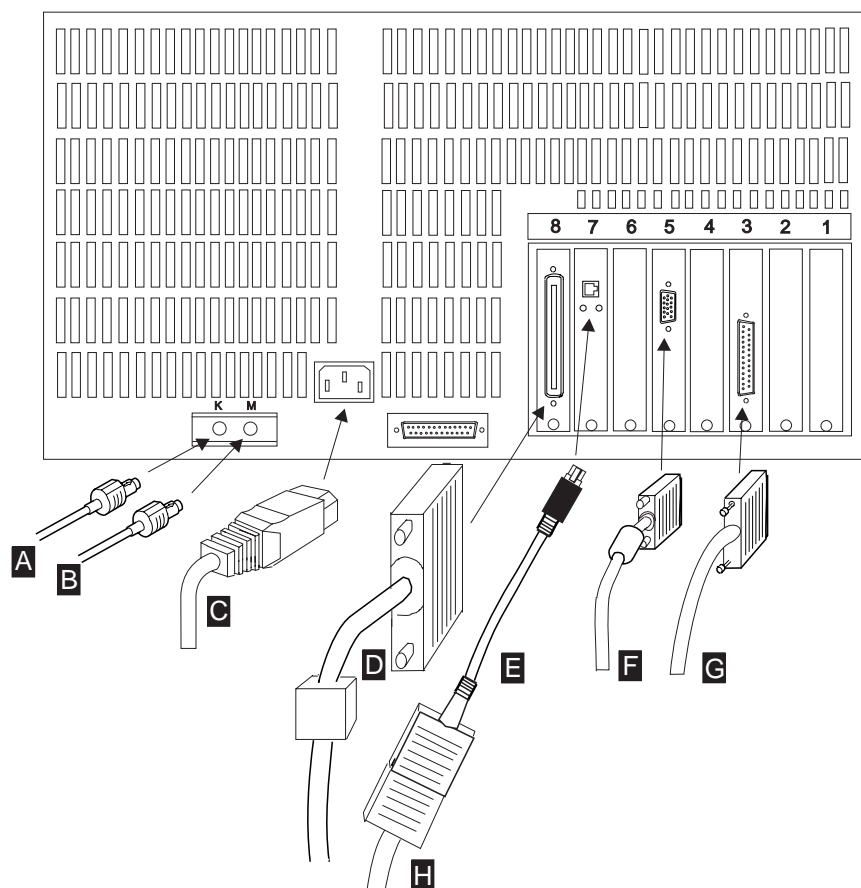

Figure 1-34. Cable Locations
20. ____ **Connect** the cables to the 3172 as follows (see Figure 1-34 on page 1-33):